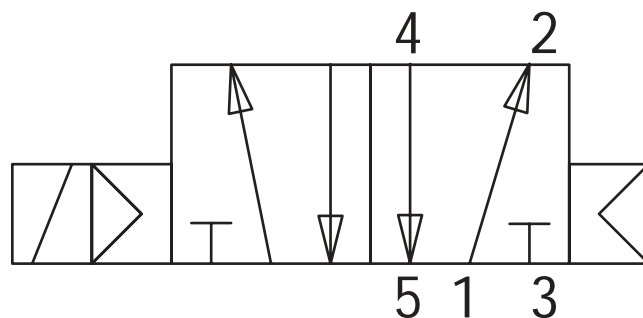
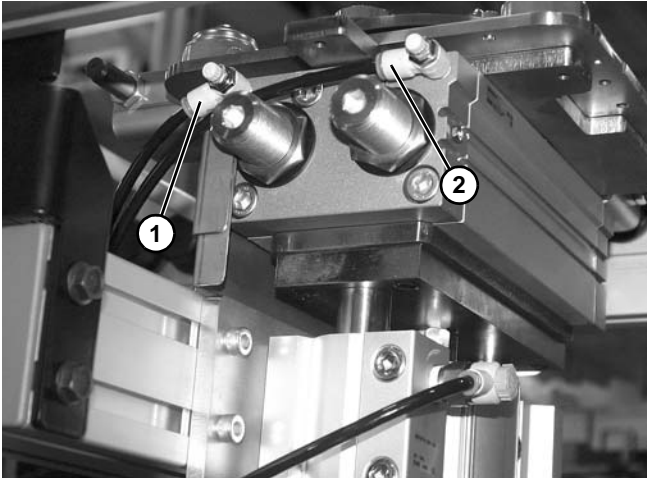

Figure 59
Figure 62
Dorner recommends using a 5-port 2-way solenoid valve (**Figure 59**) to operate the Rotating Actuator.
1. Connect Port 4 (Figure 59) of the 5-port 2-way solenoid to the left port (Figure 62, item 1) of the rotator. Dorner fittings accept 1/4" outside diameter tubing standard.
2. Connect Port 2 (Figure 59) of the 5-port 2-way solenoid to the right port (Figure 62, item 2) of the rotator. Dorner fittings accept 1/4" outside diameter tubing standard.